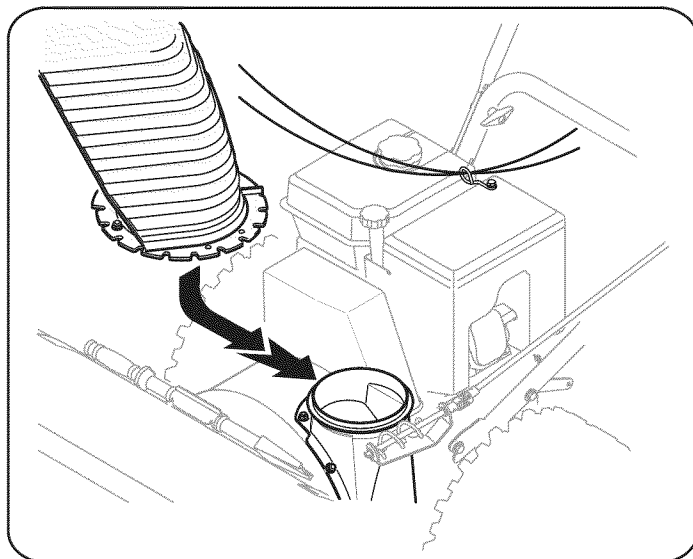

Figure 5
2. Place chute assembly onto chute base as shown in Fig. 5. Make sure that the chute notches engage with the spiral end of chute directional control, and the two flange keepers are beneath the flange on the chute base.
4. If not already done, slip the cables that run from the handle panel to the discharge chute into the cable guide on top of the engine. See Fig. 5.